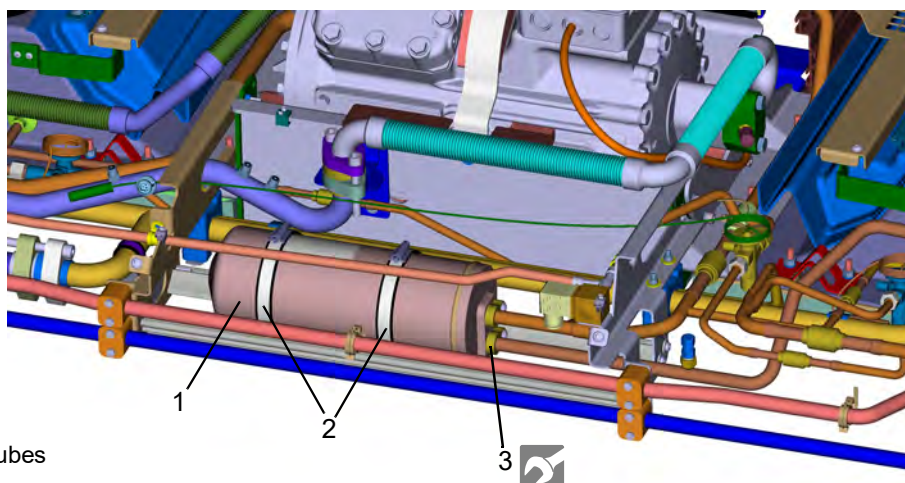

Fig. 905
- Loosen SMA connection (3, Fig. 905) of the refrigerant tube.
- Loosen retaining clamp (2).
- Remove receiver (1).
- Attach SMA connections (3).
- Attach retaining clamp (2).